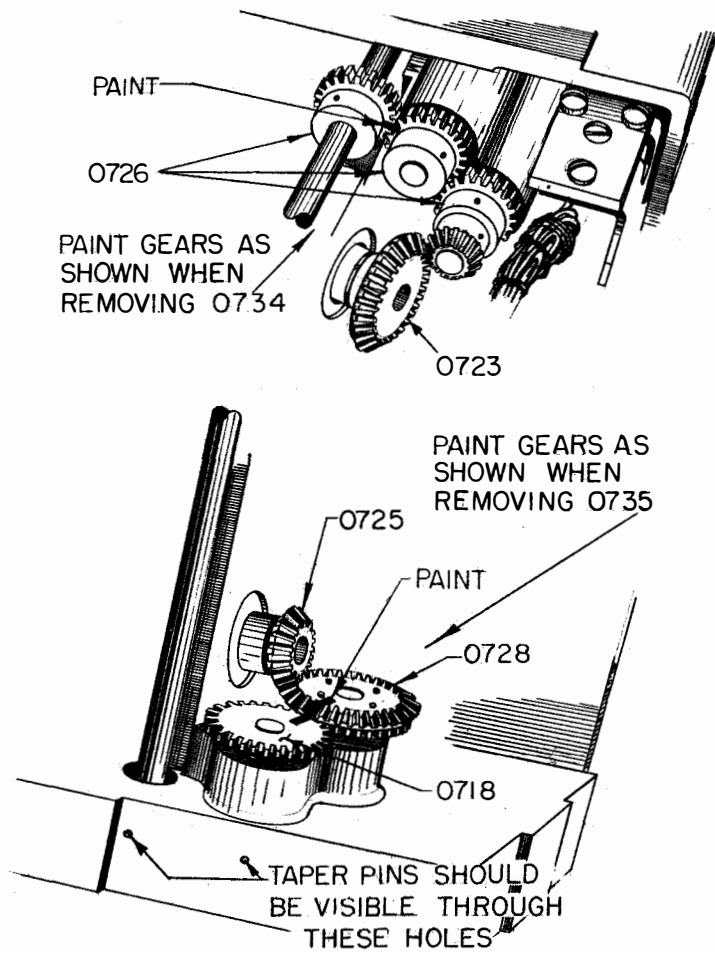

Figure 5-21. Marking Gears Prior to Autotune Removal
The exact position of Gears 0726 must be resettable. These gears should be marked as indicated in figure 5-21 prior to removal of unit so that correct alignment may be checked before inserting the new unit. If these precautions are not taken, improper indexing and subsequent damage to the RF Coupling Section, Tuning Head, or both, may result.
marked as indicated in figure 5-21 to assure correct alignment prior to installation of the new unit. If this precaution is not taken, improper indexing and subsequent damage to the RF Coupling Section, Tuning Head, or both, may result.
(1) Installation of 0734- Before installing Drive Mechanism 0734, gears 0726 must be aligned to the exact positions they were in at the time the unit was removed. See paragraph 3.b. (6), above, and figure 5-21. If this precaution is not taken, improper indexing and subsequent damage to the RF Coupling Section, Tuning Head, or both, may result